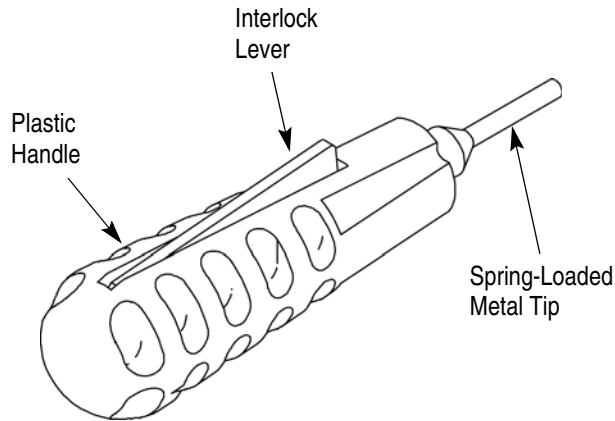

Figure 1
Extraction Tool 318845-1, shown in Figure 1, is designed to remove .140 contacts, listed in Figure 2, from MATE-N-LOK* Connectors. Read these instructions thoroughly before attempting to remove any contacts.
2. DESCRIPTION (Figure 1)